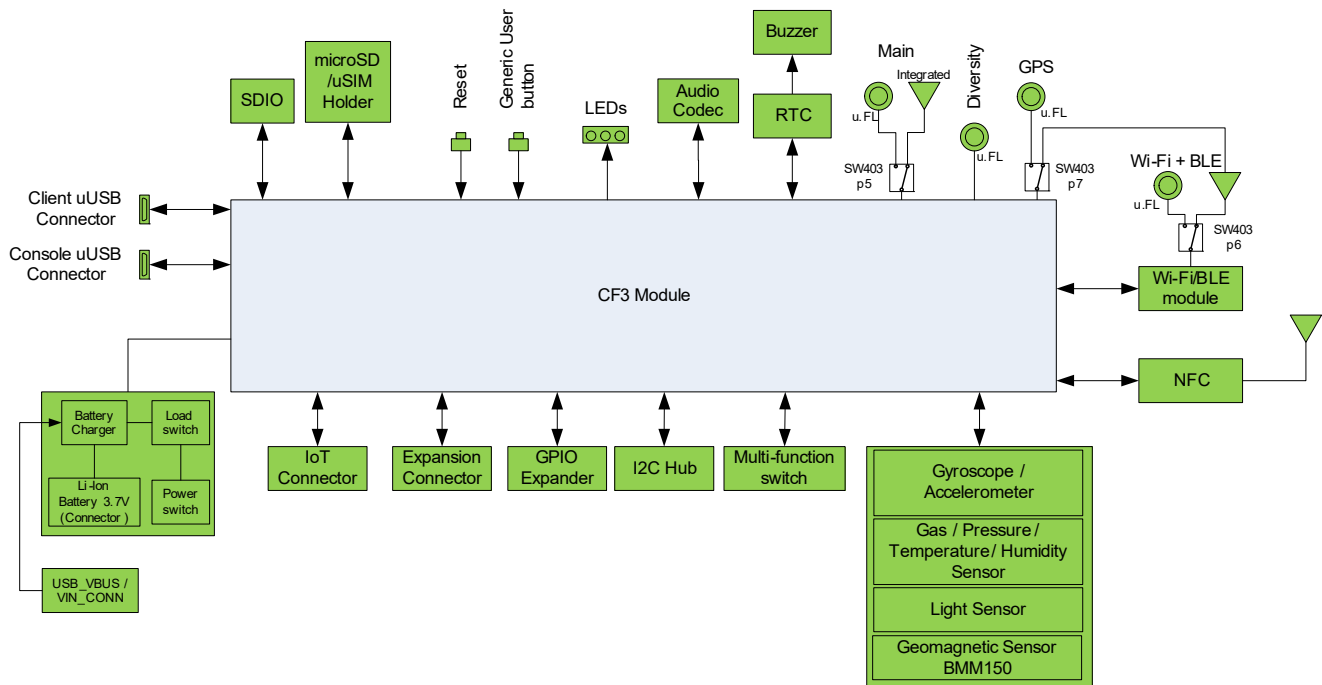
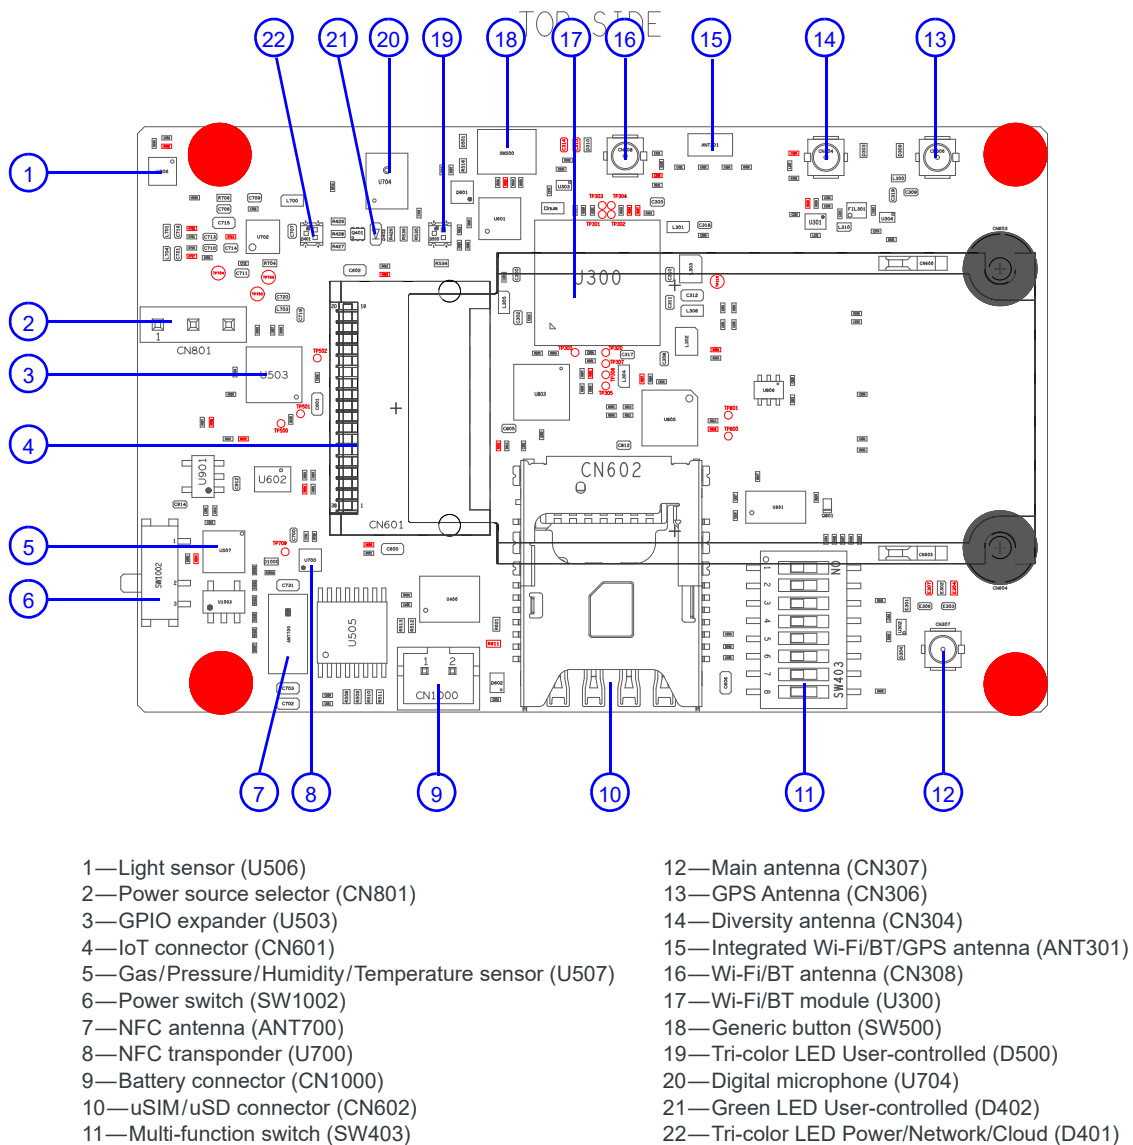

Figure 2-1: mangOH Yellow Hardware Components Overview
Figure 2-2: mangOH Yellow—Top Side Switches/Connectors
Figure 2-1 provides an overview of the mangOH Yellow's hardware components relative to the CF3 module, and Figure 2-2 on page 8 and Figure 2-3 on page 9 show their physical locations.
The mangOH Yellow platform provides several hardware components (as shown in Figure 2-2 on page 8 and Figure 2-3 on page 9), including:
a. Board designators (e.g. CN311, SW401, etc.) are for reference against the published mangOH Yellow schematic. For component locations on the board, see Figure 2-2 on page 8 and Figure 2-3 on page 9.